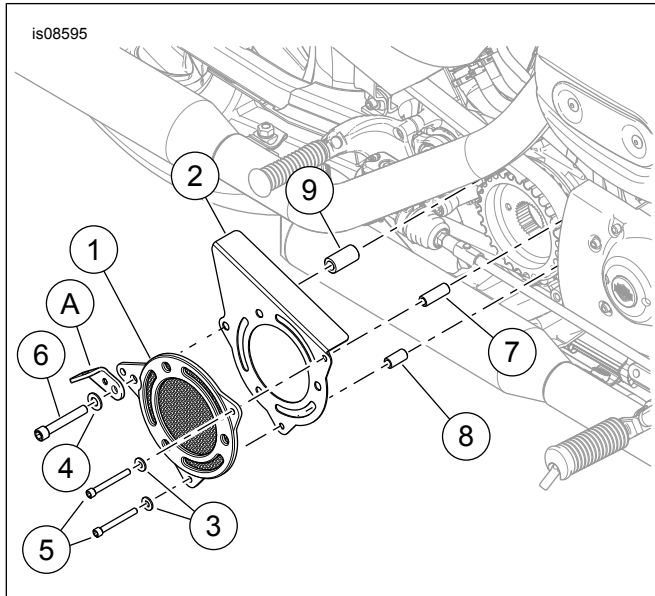

Figure 2. Service Parts: Sprocket Cover Kit
See Figure 2 and Table 1.
See Figure 2. Spacers (7, 8, and 9) are all different. The long spacer (7) goes on the top while the short spacer (8) goes on the bottom.
1. See Figure 2. Assemble the sprocket cover components as shown.
2. Install sprocket cover assembly. Tighten two screws (5) to 9–13.6 N·m (80–120 in-lbs).
3. Install the bracket (A), washer (4) and screw (6). Tighten screw to 40.7–44.7 N·m (30–33 ft-lbs).